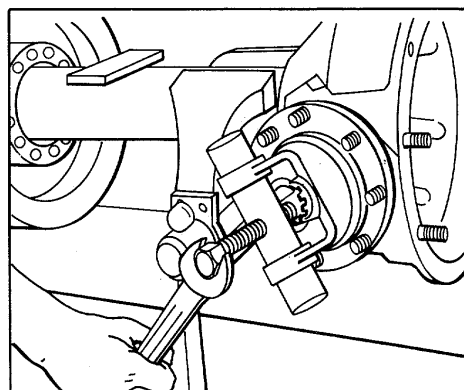

Figure 7.
2. Insert puller through yoke and remove (refer to Fig. 7).